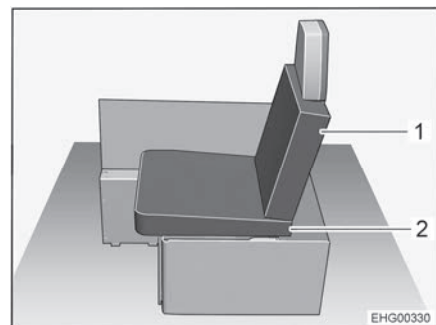

Fig. 25 After conversion
- Place one of the seat cushions of the left-hand divan as seat cushion (Fig. 25,2) on the bench seat. While doing so, pay attention to the wedged form of the seat cushion: the seat cushion must be slightly inclined toward the backrest (see Fig. 25).
- Attach one of the included additional cushions as back cushion (Fig. 25,1) to the backrest of the attachable seat.